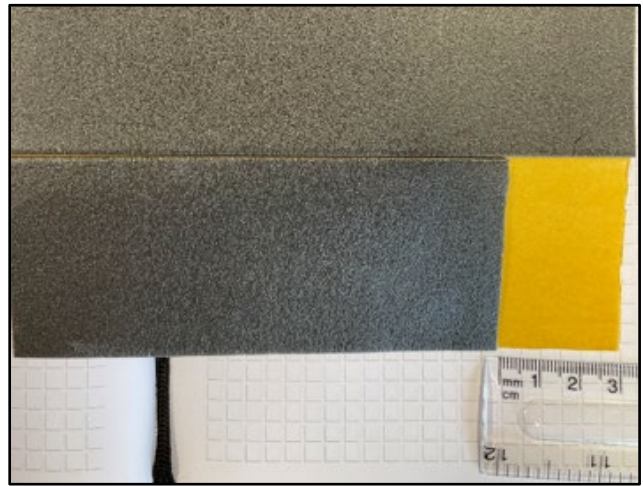

Figure 7
10. Cut a 3 cm long piece of foam (refer to Figure 7).